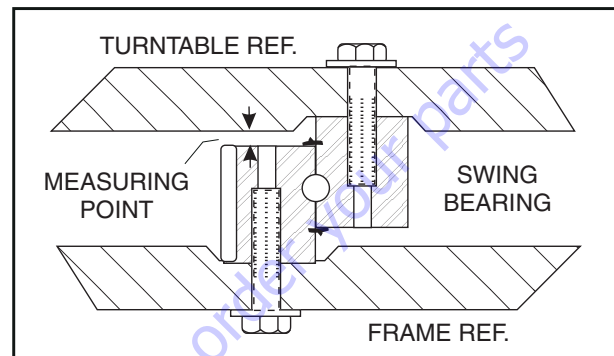
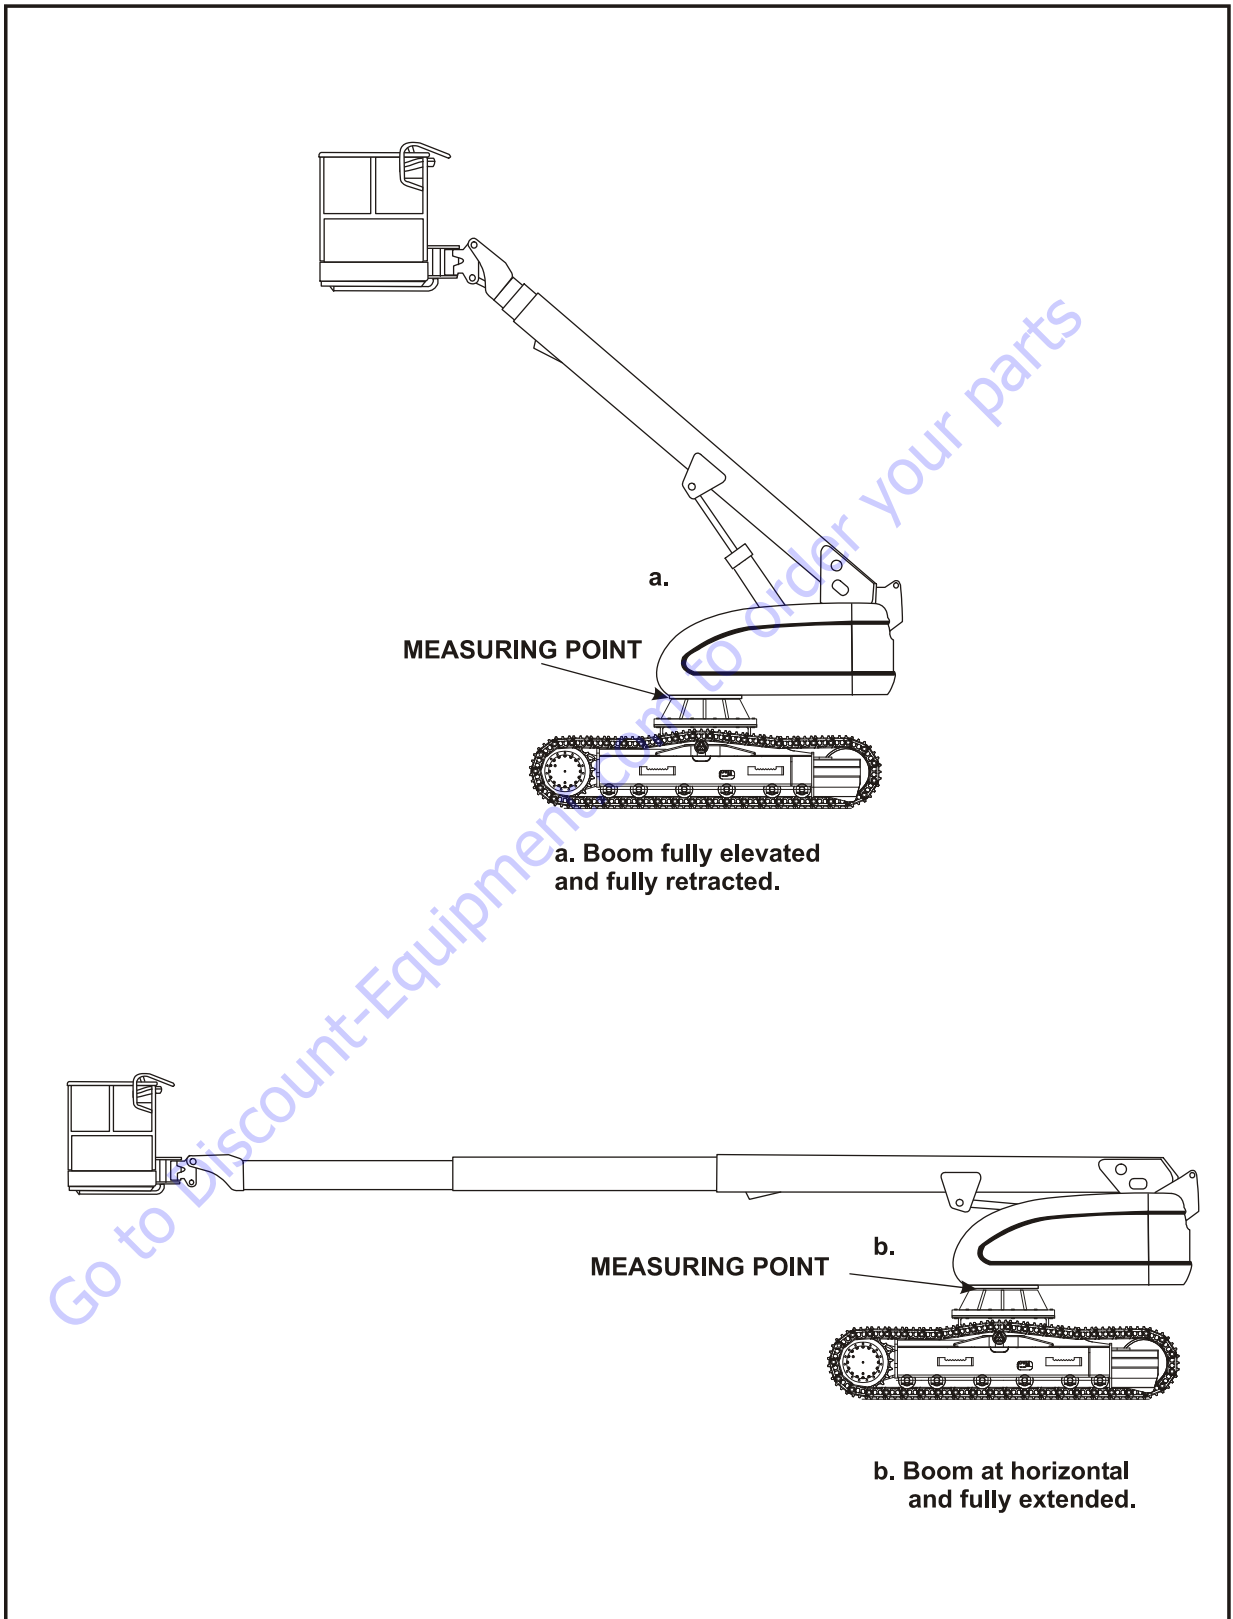

Figure 6-3. Swing Bearing Tolerance Measuring Point
Figure 6-4. Swing Bearing Tolerance Boom Placement
1. From the underside of the machine, at rear center, with the boom fully elevated and fully retracted, as shown in A, Figure 6-4., Swing Bearing Tolerance Boom Placement, using a magnetic base dial indicator, measure and record the distance between the swing bearing and turntable. (See Figure 6-3., Swing Bearing Tolerance Measuring Point.)
2. At the same point, with the boom at horizontal and fully extended, and the tower boom fully elevated as shown in (Figure 6-4., Swing Bearing Tolerance Boom Placement) B, using a magnetic base dial indicator, measure and record the distance between the swing bearing and turntable. (See Figure 6-3., Swing Bearing Tolerance Measuring Point.)